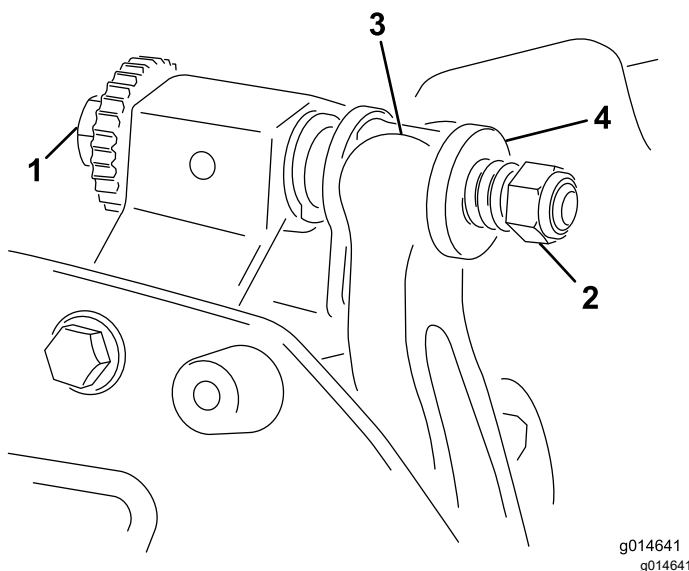

Figure 19
1. Turn the bedbar adjusting-screw counterclockwise to back the bedknife away from the reel (Figure 19).
2. Back out the spring-tension nut until the washer is no longer tensioned against the bedbar (Figure 19).
- Install the bedbar/bedknife assembly, positioning the mounting ears between the washers and the bedbar-adjusting screw (Figure 19).